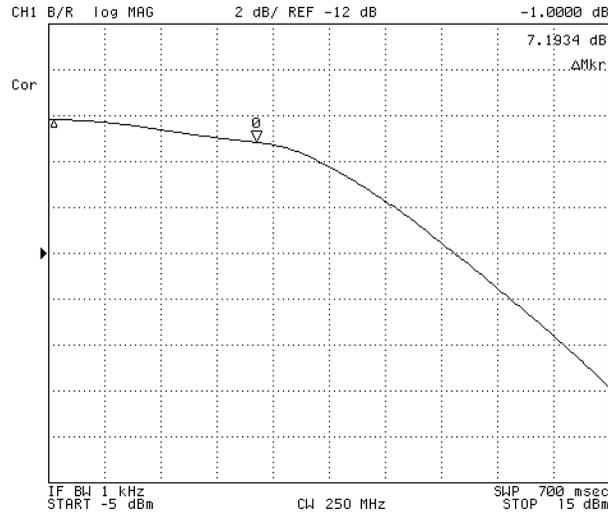

Figure 10-15. Gain Compression
9. Press **[Search]** TARGET **[-]** **[1]** **[x1]** to search for the point of the gain compression. (See Figure 10-15.)